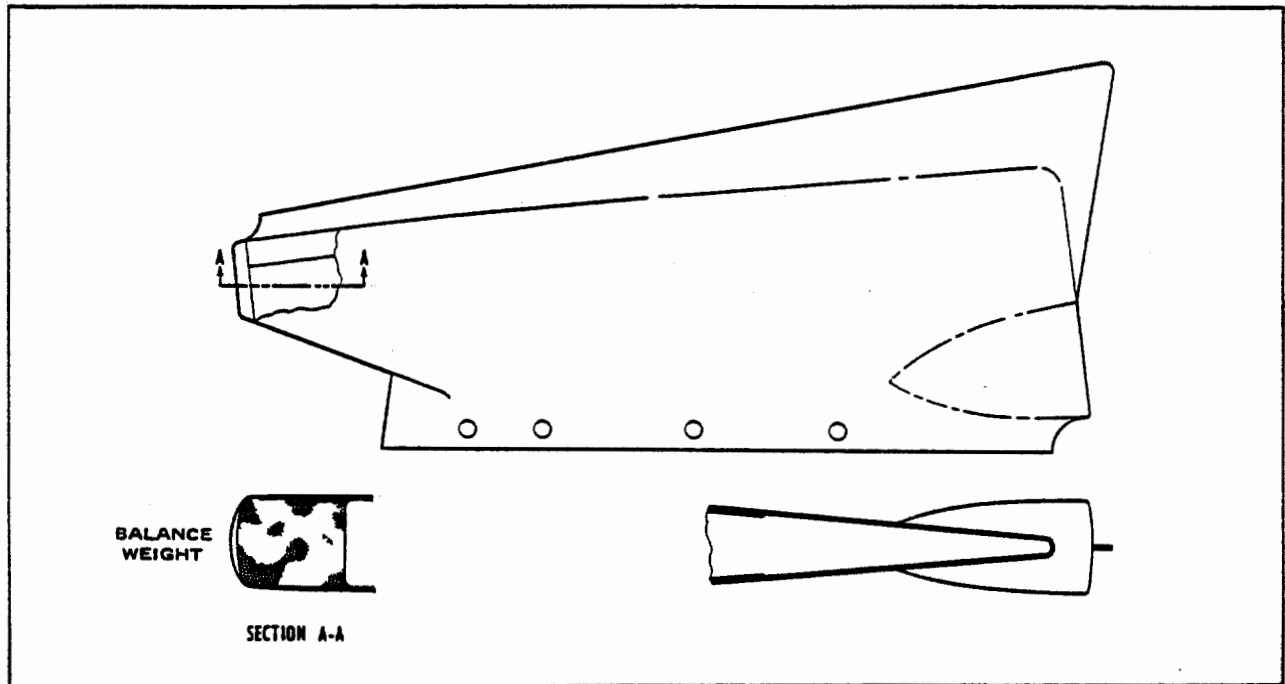

Figure 4-22. Rudder Balance Weight
- b. **Nose Light:** This condition is caused by a light balance weight or a heavy rudder as a result of paint or repairs. A light balance weight is highly improbable because it is enclosed in fiberglass per Figure 4-22, Section A-A. Paint build-up must be stripped and surface repainted. If the rudder is too heavy as a result of repairs, the repairs must be removed and damaged parts replaced.